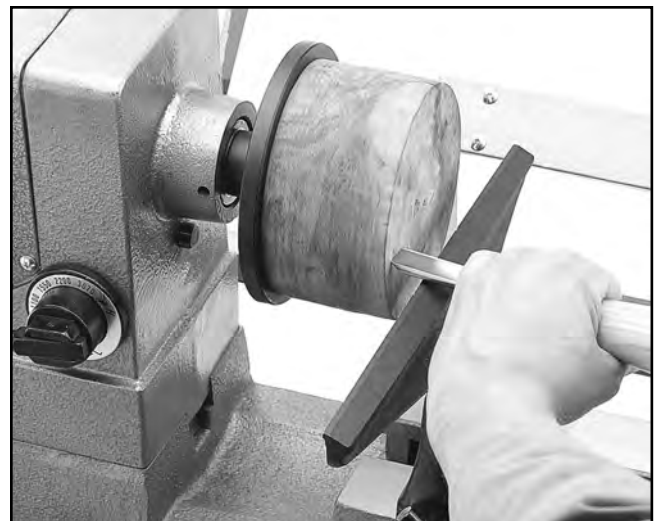

Figure 27. Typical faceplate turning setup.
5. Move the tool rest into position in front of the mounted workpiece. The position shown in **Figure 27** would be for shaping the face. The tool rest should be approximately $\frac{1}{2}$ " from the workpiece. When turning the outer edge the tool rest should be moved so it is in close proximity to the edge of the piece.